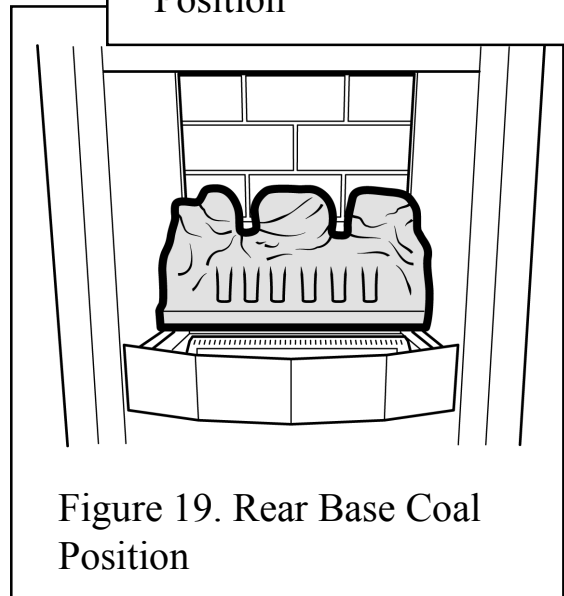

Figure 19. Rear Base Coal Position
2. Place the rear base coal in the firebox. It should rest on the ledges at the sides and back of the firebox and its rear face should touch the rear ceramic wall. See figure 19.